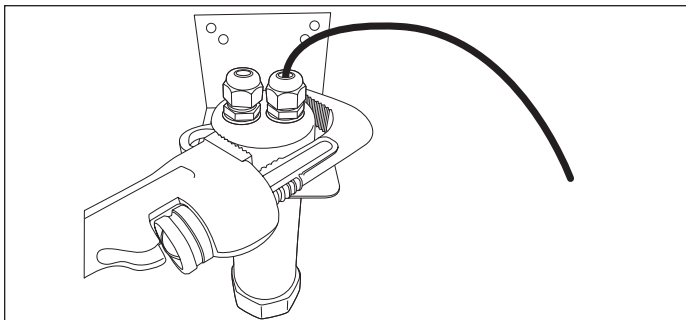

Figure 21-4
3. Using a pipe wrench, tighten the Fuel Sensor Housing cap (Figure 21-4).